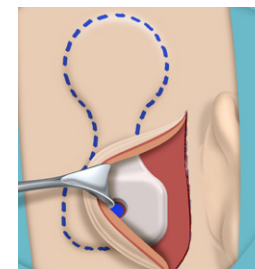

Fig.12: Checking of pocket size with the template
4. Check with the OSI200 Implant template if the pocket size is suitable and if the actuator position is according to plan (Fig.12)